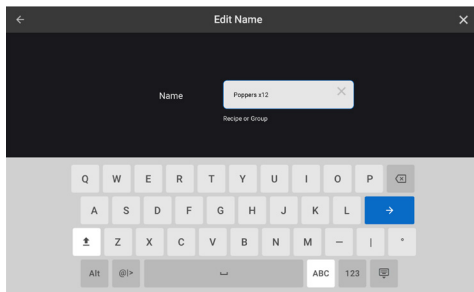

Figure 31: New Recipe Name
5. Input the recipe name and touch the blue arrow button to continue (Figure 31, below).